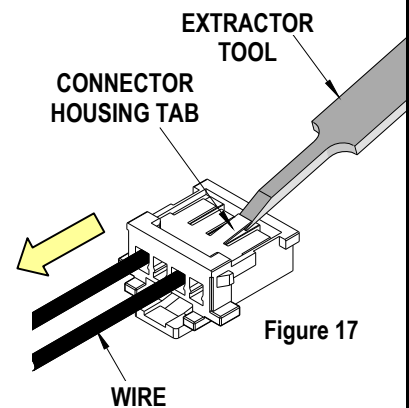

Figure 17
4. Gently lift up on the housing tab, and push the terminal back through the connector slot. While pulling the terminated wire out in the direction of the arrow. See Figure 17.